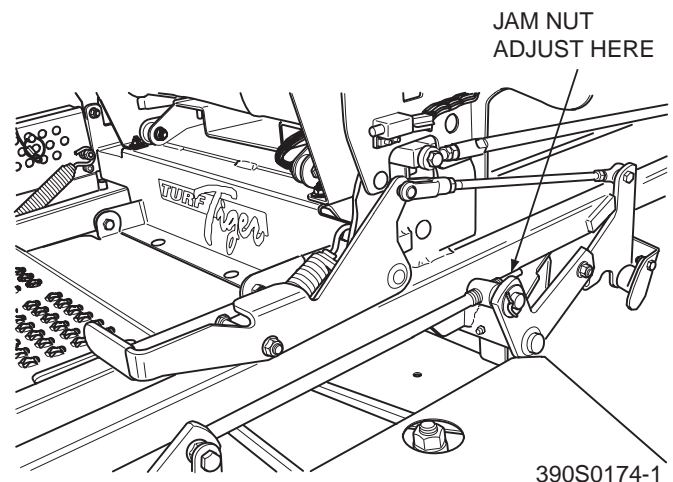

Figure 6-6. Cutter Deck Level Adjustment
1. Loosen the jam nut on both adjusting rods. See Figure 6-6.
2. Using a wrench on the jam nut turn the adjusting rods until the proper pitch is obtained on both the RH and the LH side of the cutter deck. Tighten both jam nuts. See Figure 6-6.